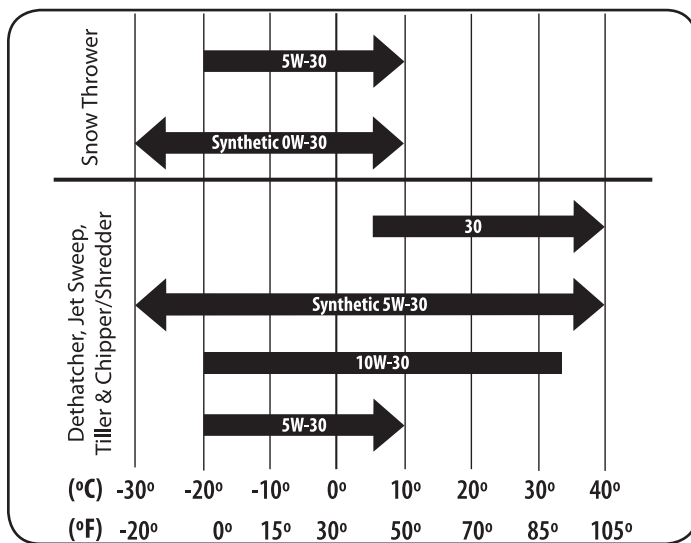

Figure 24
- Refer to the viscosity chart (Figure 24) for oil recommendations. Do not overfill. Use a 4-stroke, or an equivalent high detergent, premium quality motor oil certified to meet or exceed U.S. automobile manufacturer's requirements for service classification of a minimum level SF or SG (higher letter ratings are acceptable such as SJ, SL and SM grades). Motor oil will display this designation on the container.